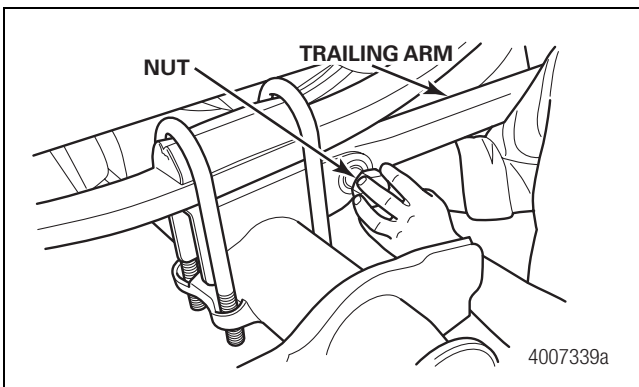

Figure 34
4. Install the trailing arms into the spring seats. Install the trailing arm bolts and nuts, but do not tighten. Figure 34.